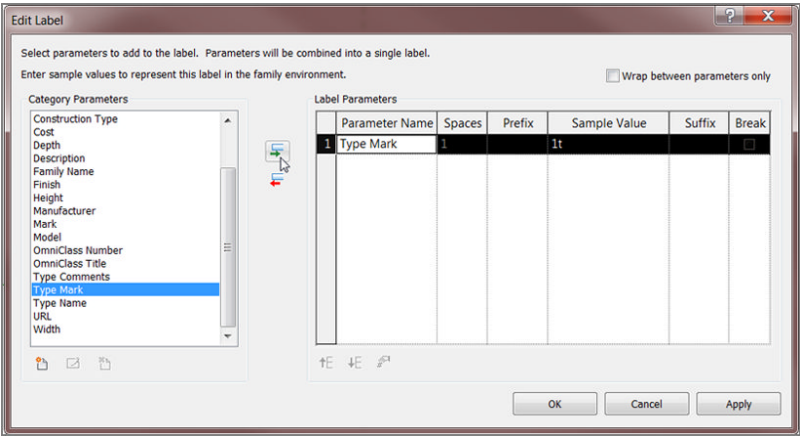

FIGURE 11.74: Adding the Type Mark parameter
- 11. In the middle of the Edit Label dialog box, click the Add Parameter(s) To Label button. The Type Mark parameter should appear in the right field, as shown in Figure 11.74.